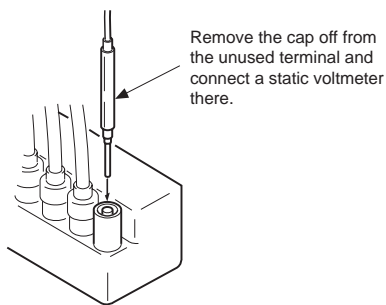

Fig. 4-1
1. Connect a HV static voltmeter to the unconnected plug of the high-voltage block. **(Fig.4-1)**